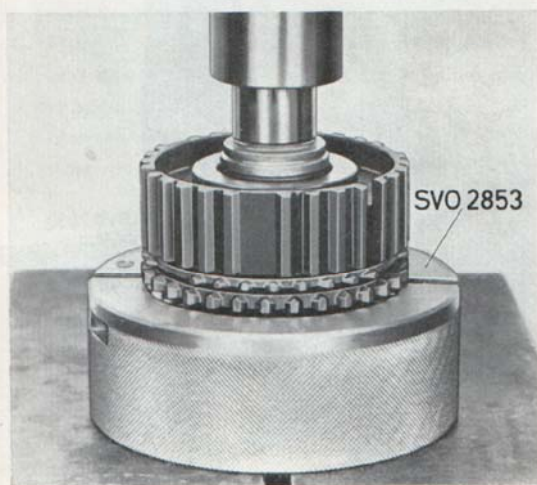

Fig. 4-10. Dismantling the mainshaft, II
4. Invert the shaft and place it in the press as shown in Fig. 4-10. Press off the 3rd speed gear wheel and the 3rd—4th speed synchronizing hub.